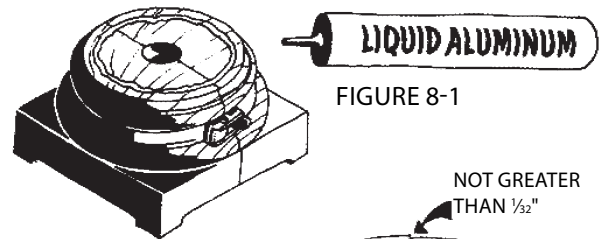

FIGURE 8-1
1. Assemble halves using screws and polyurethane adhesive on wood or polyurethane parts. Use quality liquid aluminum with aluminum plinths. Use a web/band clamp for a minimum of 24 hours (Fig. 8-1).